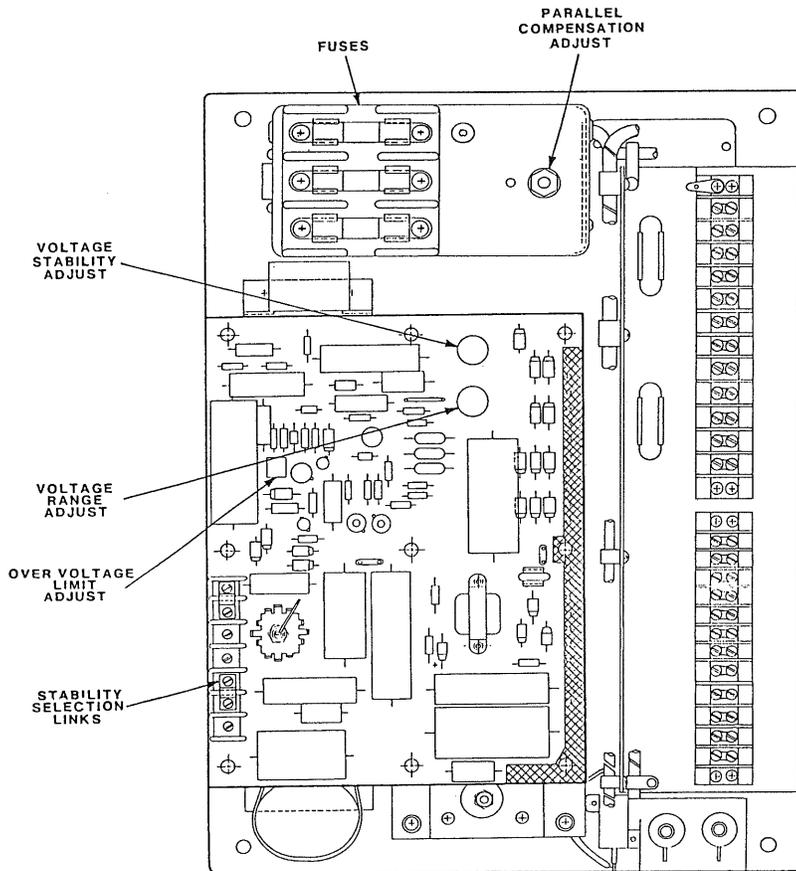

Figure 7-1. Component Location
a. Repairs can be made on the regulator by following the schematic diagram (Figure 7-1) and troubleshooting guide (Table 6-1). Repairs to the printed circuit board should not be attempted. Basler Electric Company maintains a stock of replacement parts and replacement voltage regulators.
- Figure 7-1. Component Location